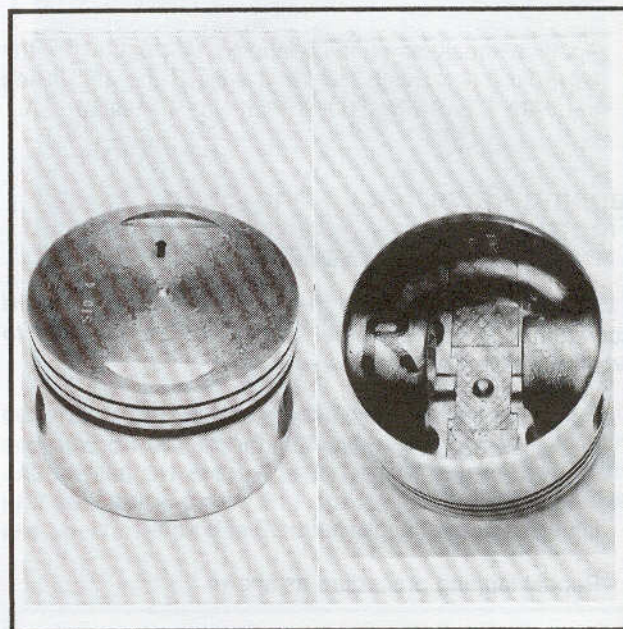

Figure 3-29. Piston Marking
7. See Figure 3-29. Mark the piston by marking an "F" or "R", for front or rear cylinder, on the piston pin boss as shown.
1. See Figure 3-29. Install the pistons. Be sure they are properly oriented front to back. The piston has a cast-in arrow on top of the piston.